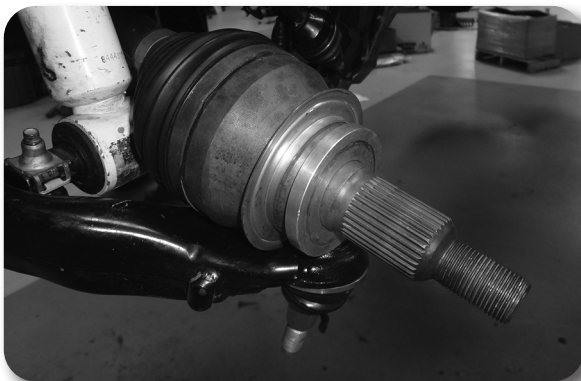
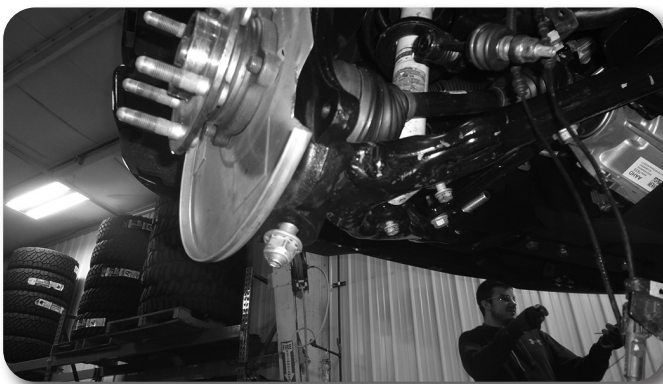

Figure 38A
Figure 38B
55. Install the CV shaft spacer (05037) on the CV stub shaft with the chamfered edge facing towards the inside of the vehicle Fig 38A. Install the assembled knuckle on the lower control arm and loosely fasten with the original lower control arm nut Fig. 38B. Install the CV shaft assembly in the hub, swing the whole assembly up and attach to the new upper control arm to the knuckle assembly using the OE Nylock Nut. Snug up ball joint using the OE Nylock Nut, but do not torque down. The upper ball joint will be removed from the knuckle later so that the strut can be installed.